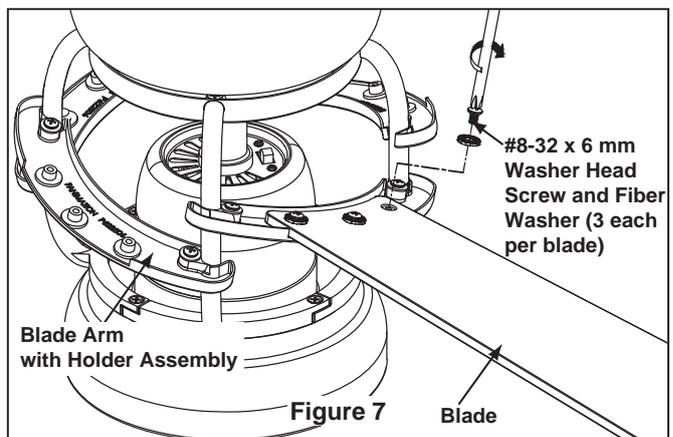

Figure 7
7. Position the blade over the blade arm with holder assembly with threaded posts showing. Make sure the bottom edge of the blade is fully seated against the flywheel of blade arm with holder assembly. Tighten the #8-32 x 6 mm washer-head screws with fiber washers to secure the blade to the flywheel of blade arm with holder assembly. (Figure 7)
- 7.** Assemble the housing on to the motor assembly using the four screws that was previously removed. (Figure 7)